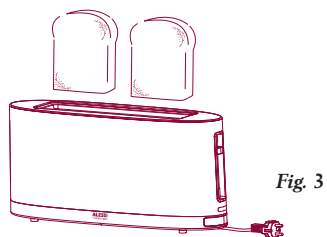

Fig. 3
- 1 Insert one or two slices of bread (fig. 3).